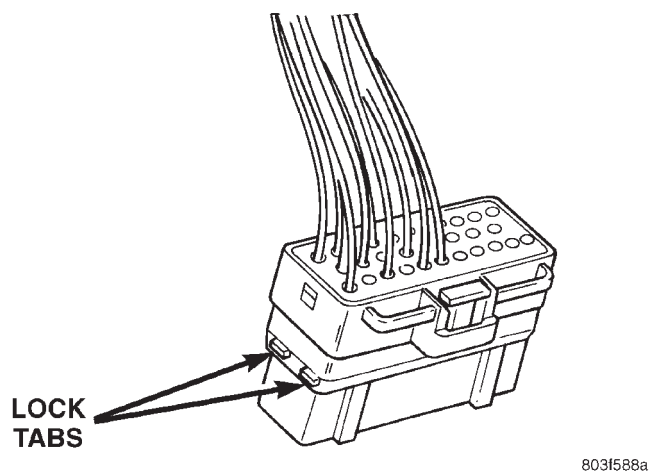

Fig. 14 Thomas and Betts Connector Lock Release Tabs
- (1) Disconnect battery.
- (2) Disconnect the connector from its mating half/component.
- (3) Push in the two lock tabs on the side of the connector (Fig. 14).